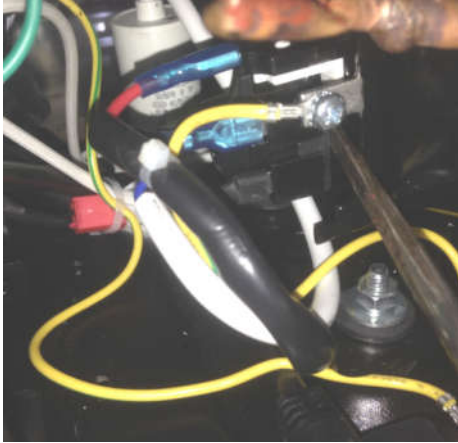

Figure 38
- 2. Dismantle the compressor PTC starter and overload protector. (figure 38)